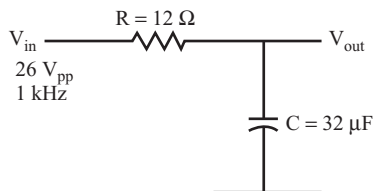

FIGURE 6.55
3. Use the circuit shown in Figure 6.55.